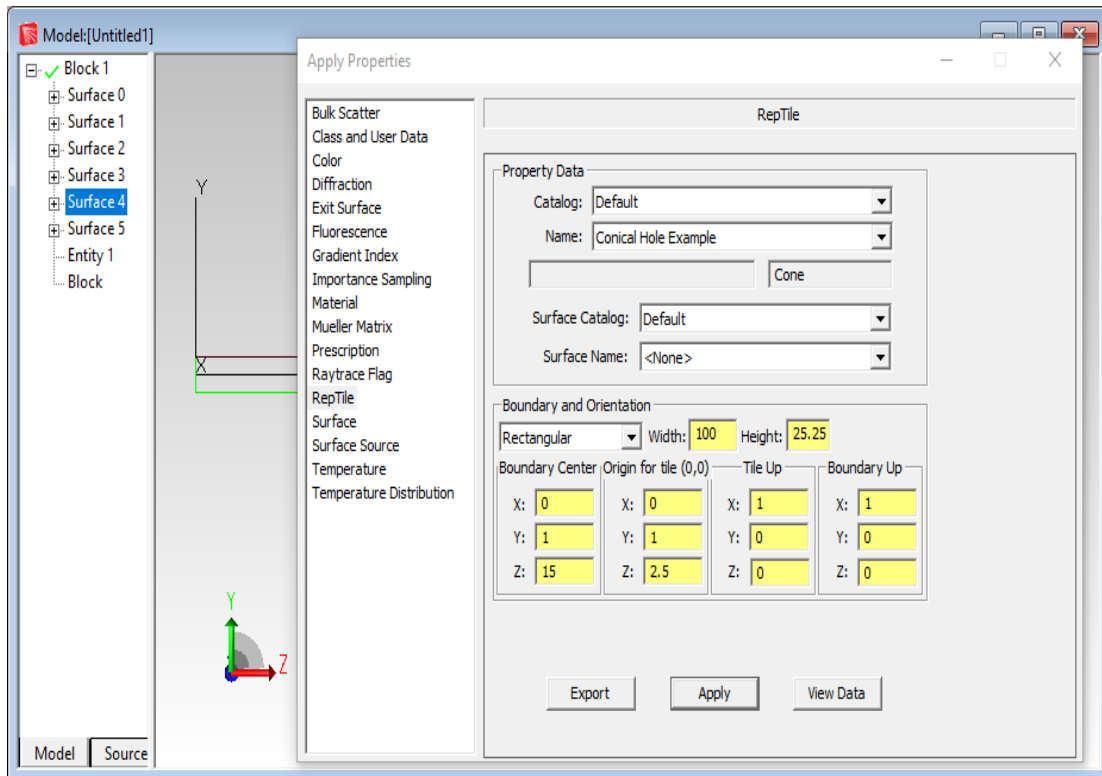

FIGURE 9.19 - Insert a block and apply the Conical Hole Example RepTile property to it.
18. Fill in the values shown in Figure 9.19. This puts the (0,0) tile at the -z edge of the rectangular boundary.